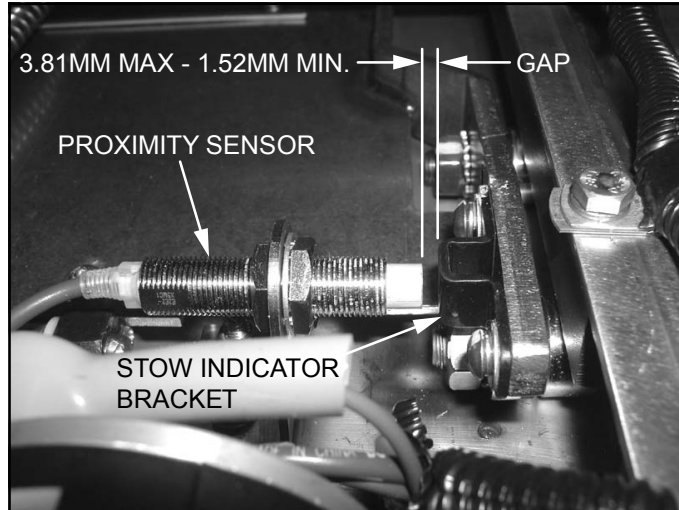

FIGURE 4-13: PROXIMITY SENSOR GAP
- e. Refer to **Figure 4-13**. Adjust and allow a maximum gap of 3.81mm to a minimum gap of 1.52mm in between the proximity sensor and proximity sensor bracket.